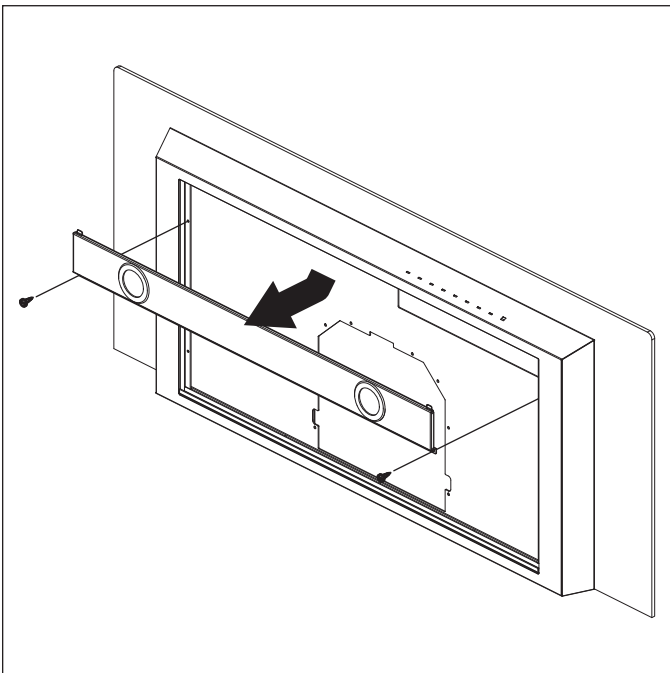

Figure 3-3. Light Assembly Support Removal
1. Extract screws holding Light Assembly Support to hood. Lower front part of Light Assembly Support and pull toward center of hood. (See Figure 3-3)